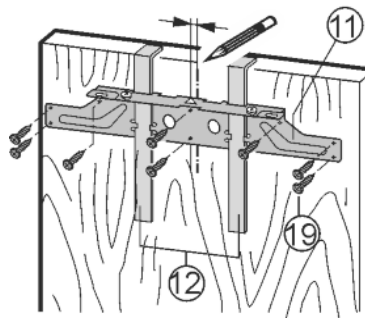

Fig. 19
- Align the crosspiece Fig. 19 (11) to the middle of the door.
- Left strip: Move the crosspiece Fig. 19 (11) 1/4 (6 mm) to the left.
- Right strip: Move the crosspiece Fig. 19 (11) 1/4 (6 mm) to the right.